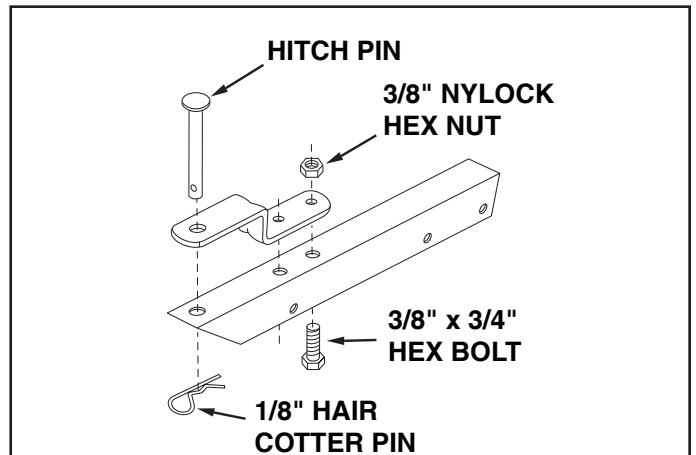

FIGURE 15
- Assemble the hitch bracket to the hitch extension bracket using two 3/8" x 3/4" hex bolts (inserted from the bottom) and two 3/8" nylock hex nuts. See figure 15.
- Assemble the hitch pin through the hitch bracket and the hitch extension bracket and secure with the hair cotter pin. See figure 15.